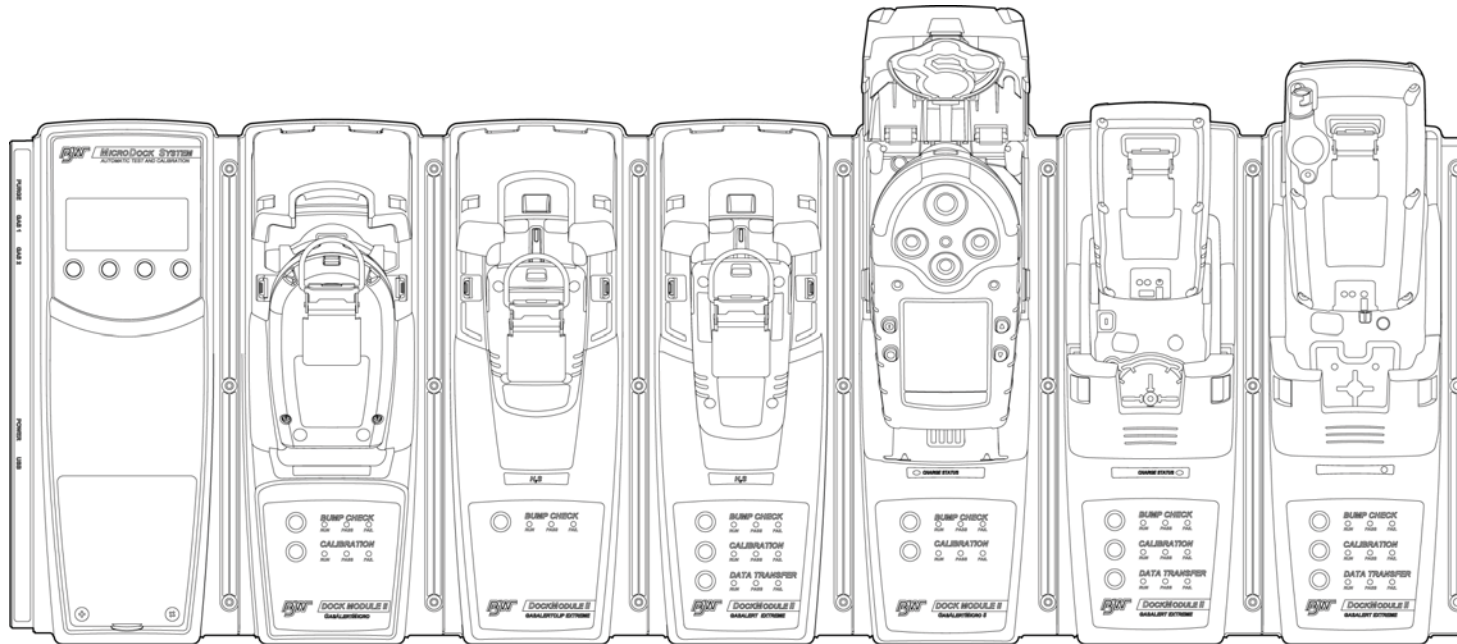

Figure 1. MicroDock II Base Station and Docking Modules
- Figure 1. MicroDock II Base Station and Docking Modules